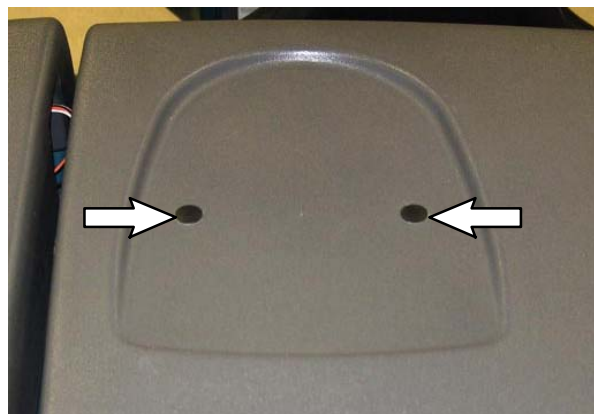

FIG. 1
1. Remove the plugs from the recovery tank cover and discard both plugs. (Fig. 1)